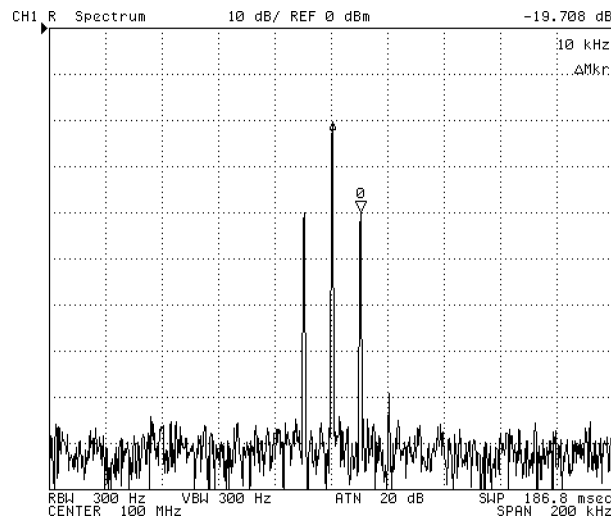

Figure 10-18. Modulating Frequency of AM Signal
4. Press **[Search]** SEARCH: PEAK NEXT PEAK to search for a sideband. The offset value from the carrier is displayed as the marker sweep parameter value shown in Figure 10-18. This value is the modulation frequency.
The Δ marker shows that the sideband amplitude value relative to the carrier is -19.708 dB (see Figure 10-18). The modulation index (m) can be derived from the following equation:
where ΔMkr is the Δ marker value shown in Figure 10-18.